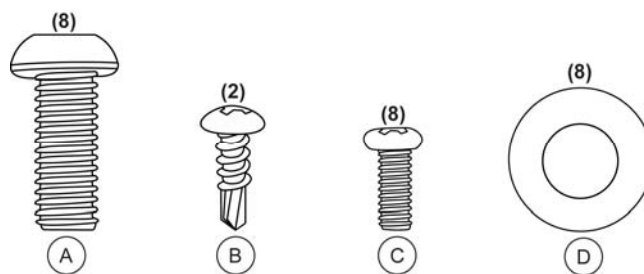

Figure 1
- (1) Plastic bag containing:
- (2) Covers for Display Support (Front & Back)
- Hardware for assembly (see Figure 1)
6. Fasten the handrail to the platform using the (8) M8 1.25 x ¾ screws, (8) M8 washers (D) and the included 5mm Allen wrench (see Figure 1).
14. Align the four mounting holes on the back of the display assembly with the four mounting holes in the display support. Fasten the display assembly onto the metal display support. Use the (4) Phillips pan head #5 x 3/8 screws (see Figure 1).
15. Place the pivot bracket screw covers over the pivot screws. Fasten the covers to the back of the display assembly using the (4) Phillips pan head #5 x 3/8 screws (see Figure 1).
16. Attach the adapter holder to the left side of the handrail using the (2) #8 x 1/2 sheet metal screws (see Figure 1).